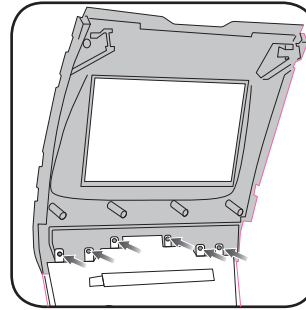

Fig. 3.1
1. Place the EDG2 display trim onto the factory climate bezel. Secure it with the six included Phillips screws. (Fig. 3.1)